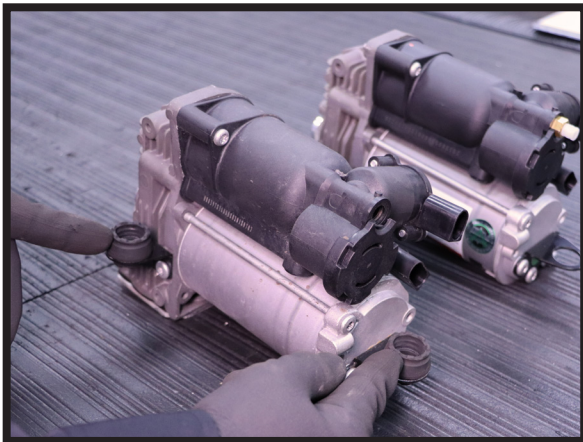

FIGURE 13
1. REUSING THE MOUNTING HARDWARE, INSTALL THE NEW COMPRESSOR INTO THE VEHICLE. (FIGURES 13, 14, 15)